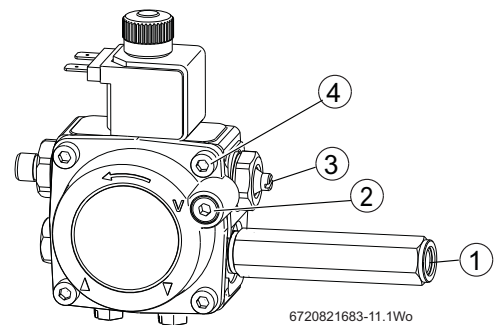

Fig. 58
2. Fit a pressure gauge to port [1] on the oil pump (refer to figure 58).